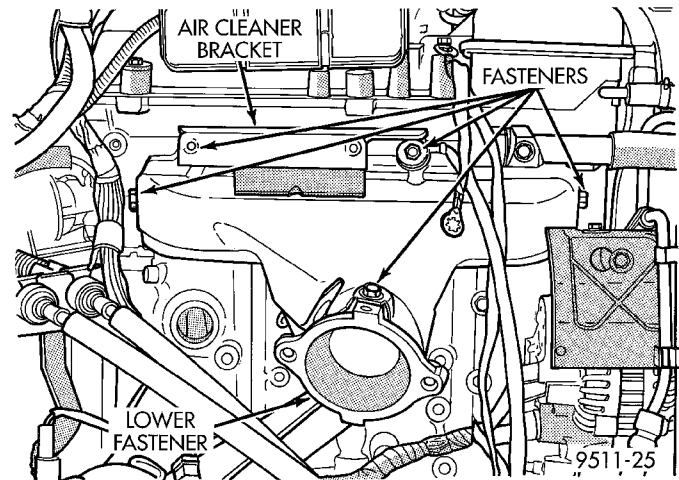
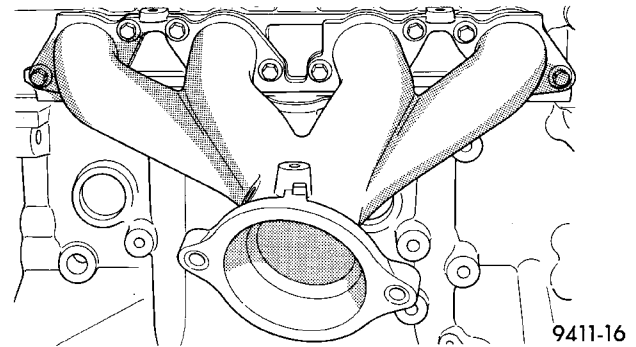

Fig. 28 Exhaust Manifold Heat Shield
Fig. 29 Exhaust Manifold
- (1) Remove air cleaner assembly and bracket.
- (2) Remove exhaust manifold heat shield (Fig. 28).
- (3) Disconnect upstream heated oxygen sensor connector.
- (4) Remove exhaust pipe from manifold.
- (5) Remove 8 exhaust manifold retaining fasteners and remove exhaust manifold (Fig. 29).